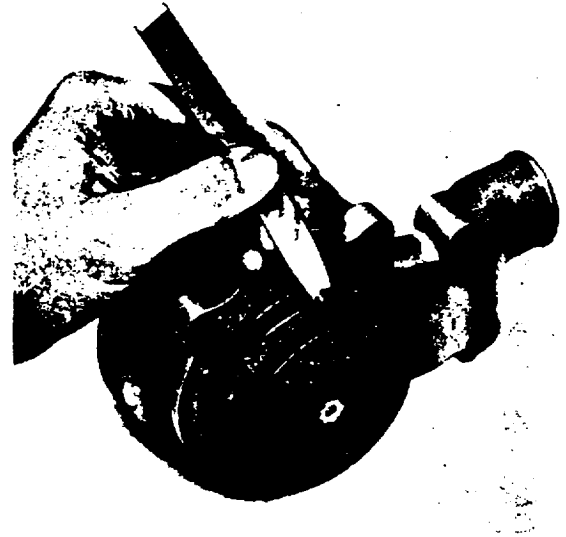

Fig. M.5.
9. Press the impeller onto the shaft ensuring that a clearance of 0.012/0.032 in (0,30/0.81 mm) is maintained between the impeller vanes and the pump body (see Fig. M.5).